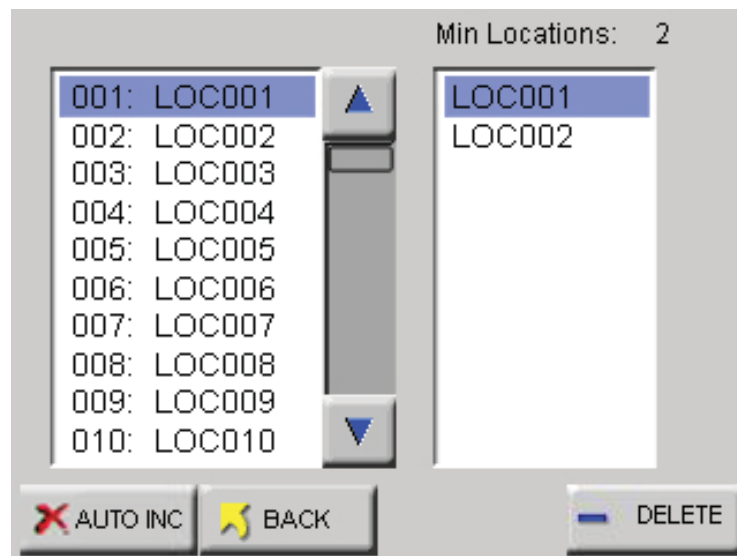

Figure 6-92 Reports Location Screen
- Select the LOC button to select, add or delete locations or enable Auto Inc as shown in Figure 6-92.